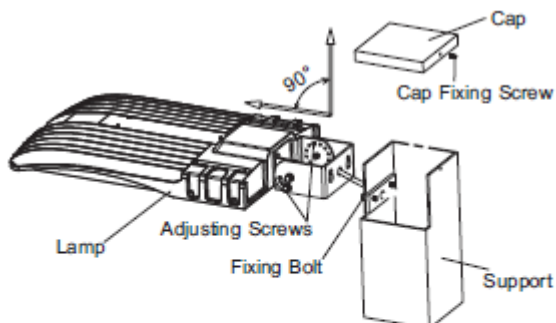

figure 2
1. Loosen cap fixing screw and take cap off. Loosen fixing bolt, fix the fixture on the support and tighten fixing bolts. (figure 2)
3. Loosen adjusting screws, align the fixture to required angle and fasten the screws. (figure 2)